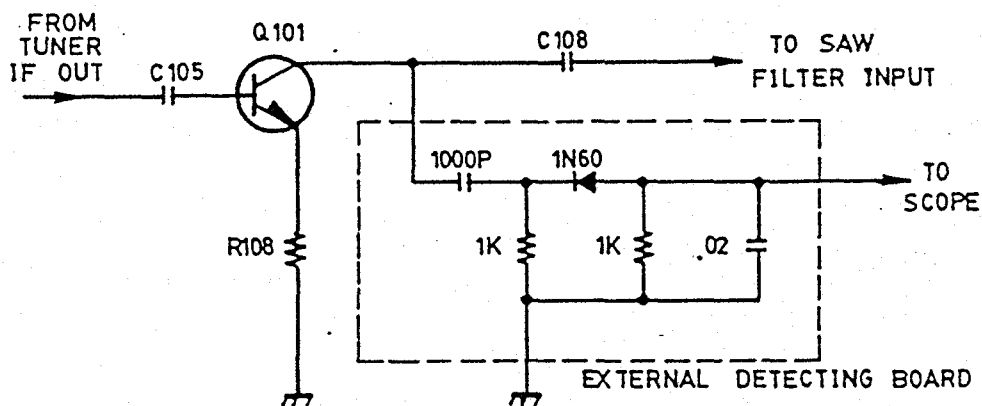

Fig. 9
2. Connector the external detecting circuit between the syncoscilloscope input and TP 101 (Q101 – Collector). (See Fig. 9.).